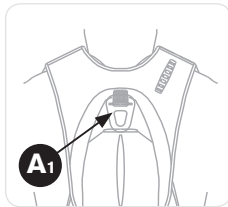

Figure 17
- Connect the karabiner of the energy absorbing lanyard to the fall arrest attachment point marked **A1** (Figure 17). **A1** is the only attachment point that will operate the Latchways PRD rescue function.